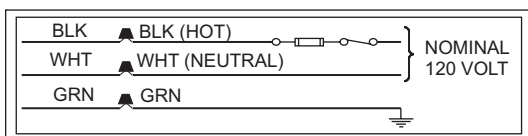

FIGURE 6: Line Wiring Connections
2. Remove the screws retaining the junction box cover. Route the power wiring through the opening in the unit into the junction box with a conduit connector or other proper connection. In the junction box there will be three wires, a Black Wire, a White Wire and a Green Wire. Connect the power supply as shown on the unit-wiring label on the inside of the blower compartment door or Figure 6. The black furnace lead must be connected to the L1 (hot) wire from the power supply. The white furnace lead must be connected to neutral. Connect the green furnace lead (equipment ground) to the power supply ground. An alternate wiring method is to use a field provided 2" (5.08 cm) x 4" (10.2 cm) box and cover on the outside of the furnace. Route the furnace leads into the box using a protective bushing where the wires pass through the furnace panel. After making the wiring connections replace the wiring box cover and screws.